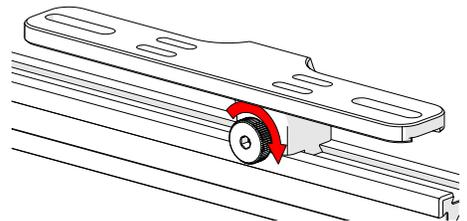

Fig. 43 - Tighten knob
2. Tighten the knob to lock the preamp bracket in place (Fig. 43).